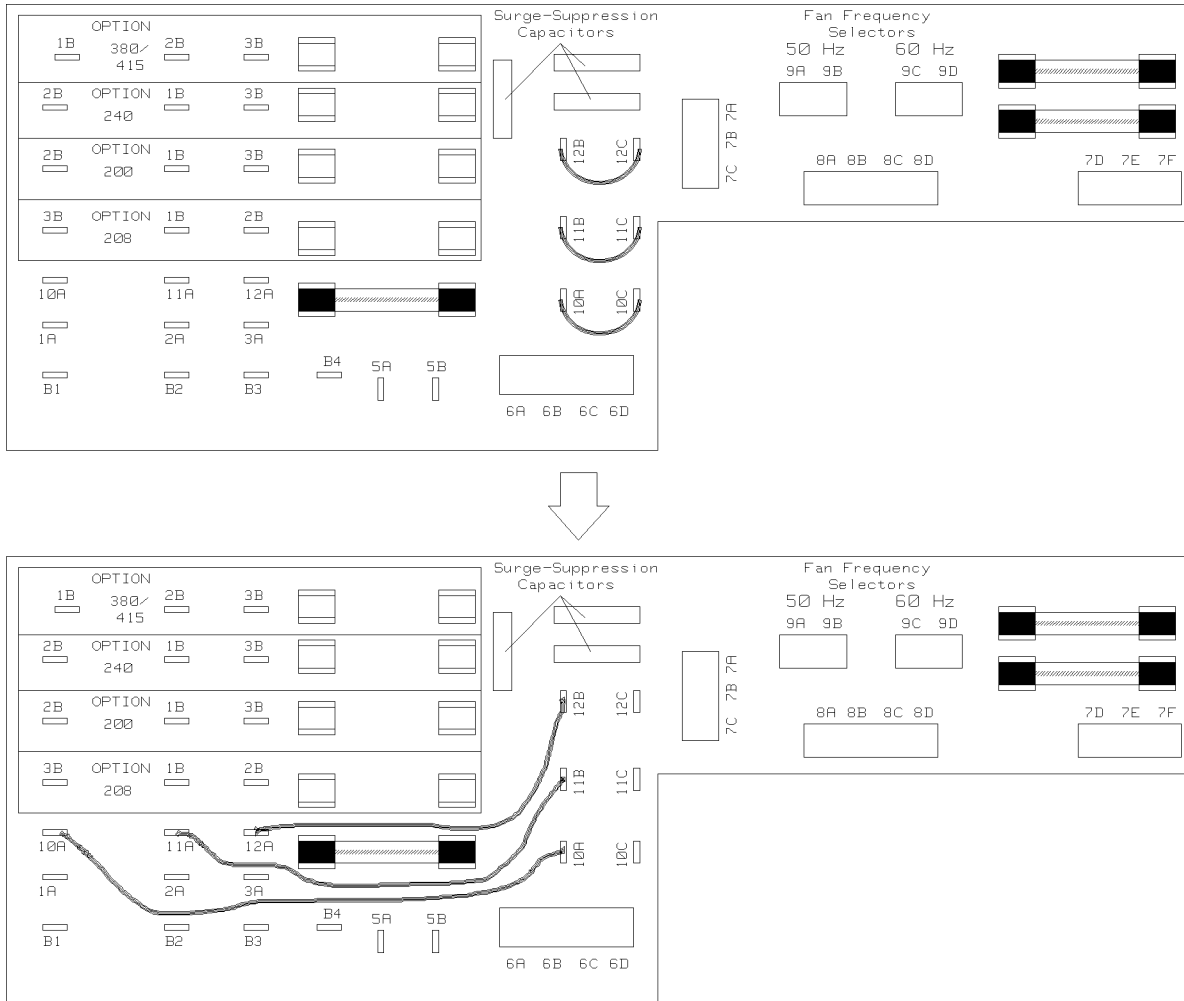

Figure 7-10. Connecting the Surge Suppression Capacitors
5. The PCM is equipped with three surge-suppression capacitors for options **400/415** and **208**. If you are installing one of these options, make the connections shown in Figure 7-10.